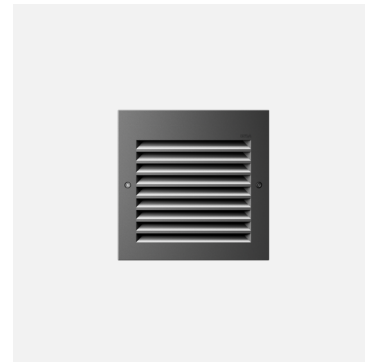

Figure 1:
1. Install (2) slotted mounting brackets provided as shown in Figure 1, using the (4) self-tapping T20 torx head screws provided with the included kit (Kit #93).